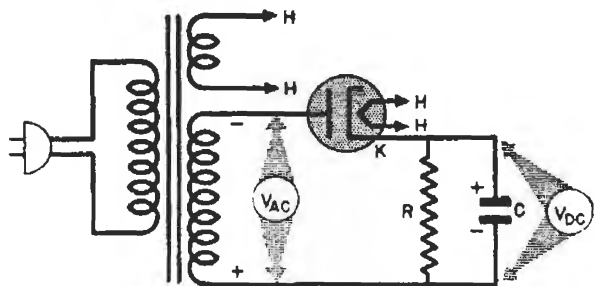

FIG. 27. The peak inverse voltage is the sum of the d.c. output and the peak a.c. input.
Fig. 27 shows a single diode connected through a load R to a high-voltage secondary. Once each half cycle the tube plate is positive (+), while the cathode (K) is negative (—), and once each half cycle the plate is negative (—) and the cathode is positive (+). When the diode passes electrons, the voltage across the tube is lower than $V_{a.c.}$ because of the